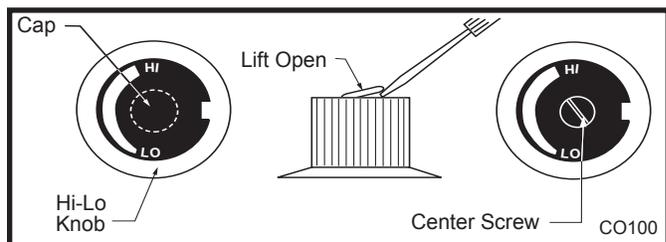

Fig. 29 Remove center screw from Hi-Lo knob.
1. Remove cap from Hi-Lo knob. This can be accomplished by lifting the plastic cap off the screw. (Fig. 29)
2. Remove the screw from center of Hi-Lo knob with small screwdriver turning counterclockwise. (Fig. 29)